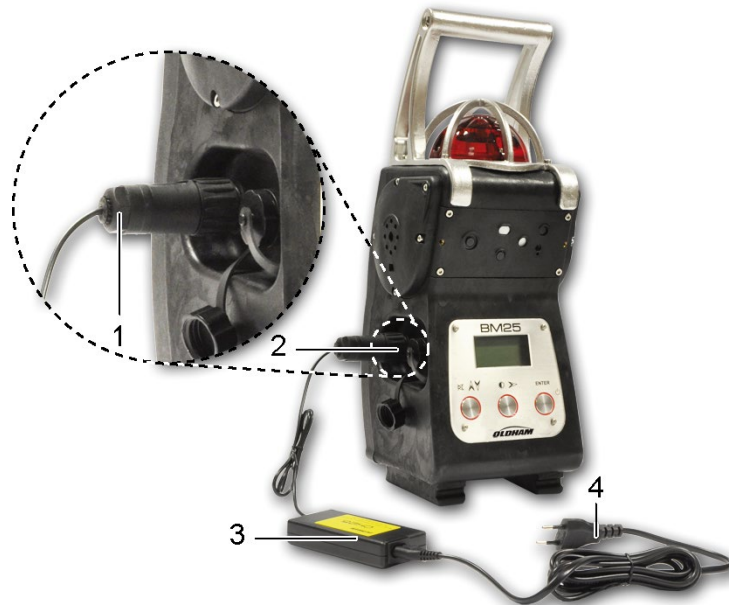

Figure 10: charging in safe area
Insert the male connector (Figure 10, ref. 1) from the charger (ref. 3) into the corresponding charging port and identified with a red ring (ref. 2) on the BM 25/25W. Connect the other end of the power supply (ref. 4) to the power source. Charging time is 4.5 hours with the 110/230 VAC universal charger.